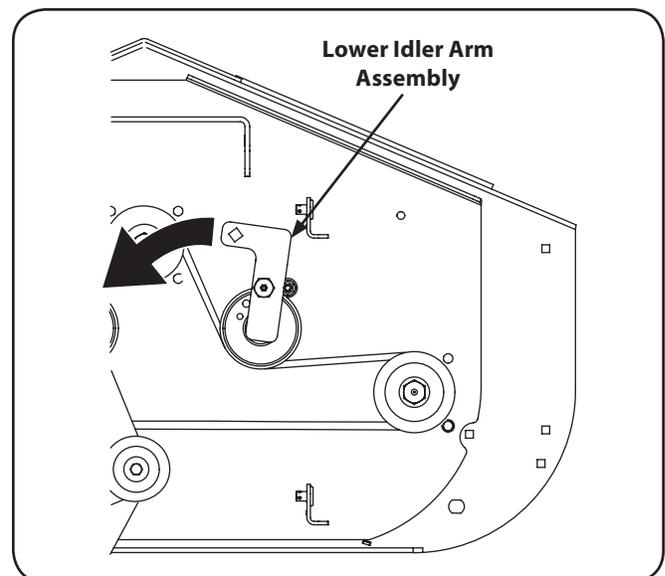

Figure 7-4
3. Using a $\frac{3}{8}$ " socket breaker bar or socket ratchet insert the drive end into the $\frac{3}{8}$ " square opening in the lower idler arm assembly and push the idler arm counterclockwise. See Fig. 7-4. While holding the idler arm back, loosen the deck belt from the pulley and slide the belt away from the pulley.